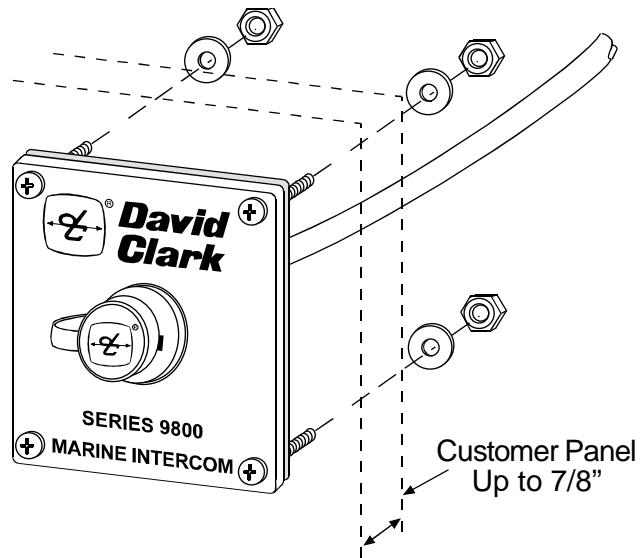

Figure 4: Proper mounting of 40894G-XX Panel-Mount System Cable
5. Secure the panel using the 40688G-64 Mounting Kit, see **Figure 4**.